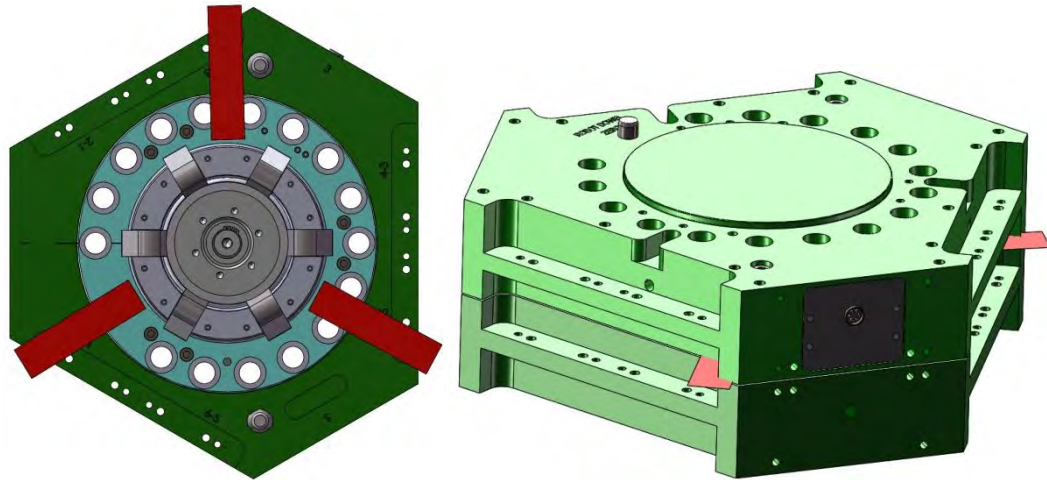

Figure 8.1.3-3. Shim Test of the Cam Locking Mechanism
10. Repeat steps 6 through 9 for each location shown in Figure 8.1.3-3.